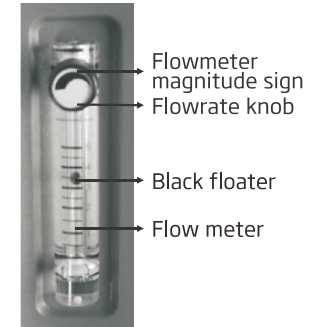

Figure 3
- ▶ Turn the flowrate knob to require oxygen need (Reed as centre of the black ball). Turn the knob anticlockwise to increase the flowrate, and clockwise to decrease. Meanwhile, humidifier bottle will have air bubble around the sieve core. Then, oxygen comes from the oxygen outlet. (Figure 3)